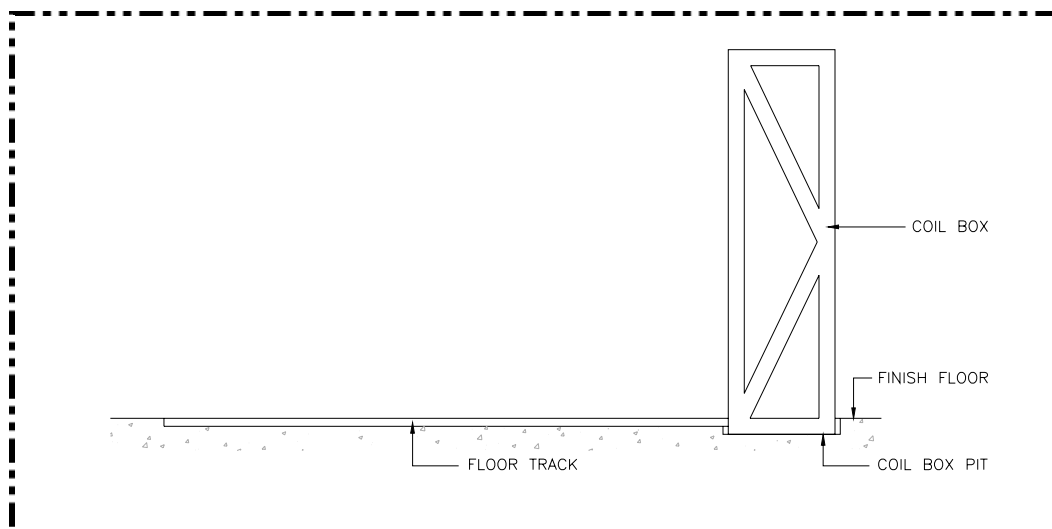

FIGURE 2 – WITH A FLOOR TRACK ASSEMBLY
STEP 2 – PLACEMENT AND INSTALLATION OF COIL BOX ASSEMBLY **(REFER TO FIGURES 2 & 3)**
OPTIONAL COMPONENT REFER TO AS-BUILT SHOP DRAWINGS (REFER TO FIGURES 2 & 5)**